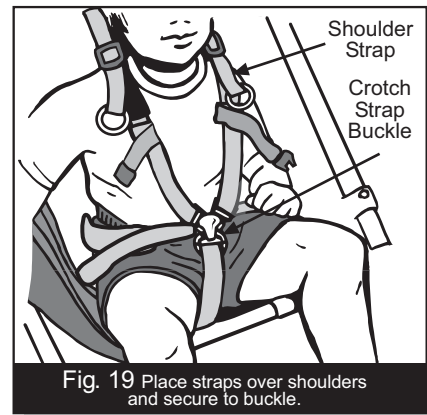
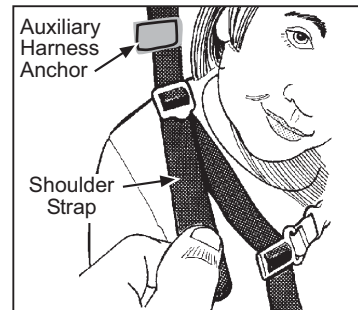
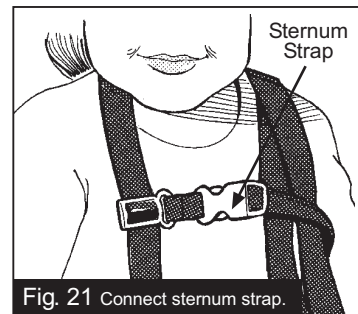

Fig. 19 Place straps over shoulders and secure to buckle.
Fig. 20 Securely adjust shoulder straps.
Fig. 21 Connect sternum strap.
- To secure your child in the seat, put one shoulder strap over each shoulder and snap the male buckle into the female receiver on the crotch strap (Fig. 19). Adjust shoulder straps to be snug and secure (Fig. 20). Connect the sternum strap (red), see Fig. 21.
For heavier and or taller passengers (closer to the maximum limits above), auxiliary harness anchors may be utilized by unfolding anchor Velcro (Fig. 20), sliding ladder lock buckles above anchors, and reconnecting Velcro to keep ladder lock buckles in place.